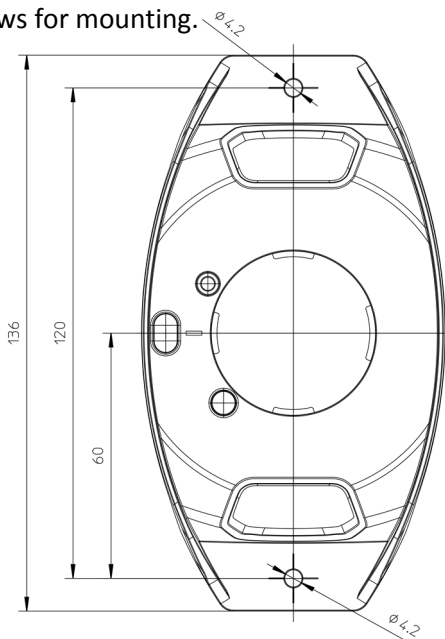

FIGURE 18: ROOF MOUNT INSTALLATION STEP 2 (MEASURE AND MARK THE INSTALLATION HOLES)
Step 2: Measure and mark the installation holes in accordance with the drawing showed in Figure 18. Use the enclosed two stainless A4 screws for mounting.